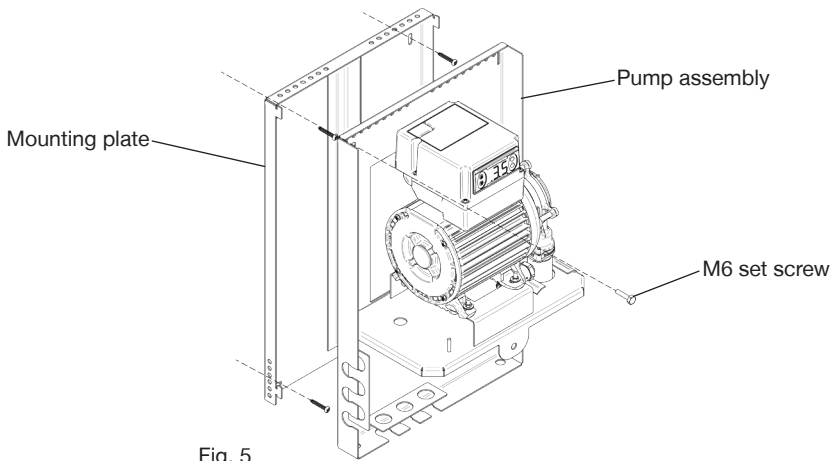

Fig. 5
- 1) Fit mounting plate onto wall ensuring level (Fig. 5).
- 2) Hook pump assembly onto mounting plate and secure in place using M6 set screw (Fig. 5).